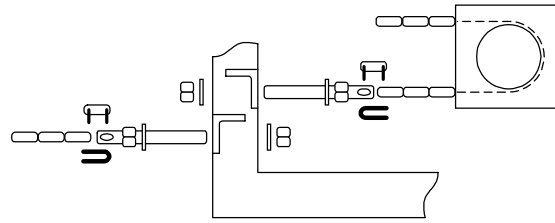

Figure 19
2. Secure the chain brackets to the gate as shown in figure 19. The chain brackets should be attached to the gate frame so that they are approximately one (1) inch apart.
4. Attach the chain to the chain bolts using the master links supplied, and then attach the chain bolts to the chain brackets using the hardware supplied (figure 19). Make any adjustments to the chain length at this time.